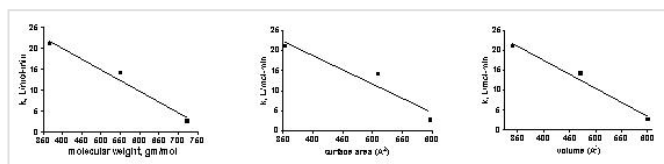

Figure 7. Rate constant,  $k$ , for the different dyes vs. measurable molecular parameters.
The question of dye removal rate as a function of dye structure can be addressed in a general sense by considering the graphs depicted in Figure 7. It is clear from inspection of these graphs that the rate of dye removal does vary as per the dye structure. This variation can be quantified by application of Eq. (13) as described in the Mathematical Modeling section, and the values of the derived rate constants are presented in Table 3. The differences in rates of removal are not large, however, and vary no more than a factor of 10 between fastest (Basic Blue 3/Fluorescein) and slowest (Chlorophyllin).
The experimental observation that the rate constants for dye removal,  $k$ , decreased at the faster flow with all of the dyes was unexpected. Intuitively, an increase in the rate constant for dye removal might be expected to result from a situation in which more dye-containing solution passes through the GAC bed per unit time (i.e., faster flow rate). How can this discrepancy be rationalized? In fact, it is typical for flow-through reactor experiments such as the one used in these studies to find that mass transfer of the solute (= dye molecules in this case) from the bulk solution to the adsorption site is actually the slow, or rate-limiting, step. Since the rate constant can be thought of as a probability of adsorption as the solution passes through the GAC layer, the residence time of a given dye molecule becomes important. If the residence time is long compared with the time it takes for the dye molecule to find its adsorption site, then the  $k$  value will be high. On the other hand, if the residence time is short compared to the time it takes for the dye to find its adsorption site, then the  $k$  value will be smaller. Residence time scales inversely with flow rate, so it is possible that we have entered a regime where the faster flow (= less residence time) lead to lower  $k$ 's. Some experimental evidence that supports this conclusion can be found in Figure 7, where the  $k$  values scale inversely with the molecular weight of the dyes. This behavior is consistent with a scenario where mass transfer in solution, which also scales inversely with increasing molecular weight, is a significant factor in the overall kinetics. That is, the more a molecule weighs, the slower is its transit from point A to point B in solution, and so it benefits (= larger  $k$ ) from a longer residence time in the GAC bed (= slower flow rate).